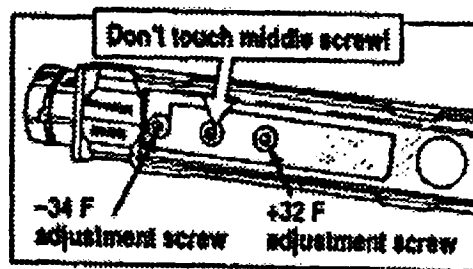

Figure 3-4
- b. If reading is more than 34 degrees F or less than 30 degrees F, your tester needs adjusting. Take three (3) or four (4) readings to be sure.
- e. The screw farthest from the eyepiece controls the 32 degree Fahrenheit end of the scale. Use a small screwdriver to adjust the screw. Clockwise increase the reading; counterclockwise reduces it. Make sure the final adjustment to 32 degrees Fahrenheit is clockwise (See Figure 3-4).